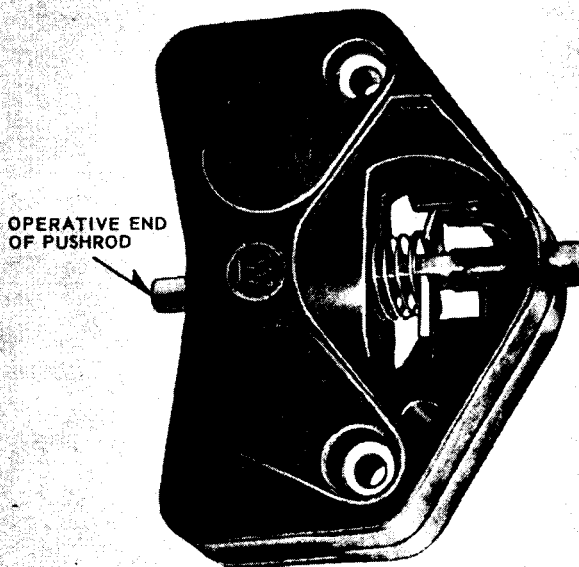

FIG. 4. Interlock Set for Normally Closed Operation (Shown With Covers Removed)
1. Remove both covers (12) from the access openings by prying with a screwdriver blade.
2. Move the spring seat (8) against the spring (7), compressing the spring nearly solid. Then rotate the spring seat about the pushrod until it drops back and locks into the two triangular shelves in the molded housing. Figure 4 shows the spring seat in this position.
3. Note that the contacts are now closed and that the interlock is operated by depressing the end of the pushrod indicated in Figure 4.